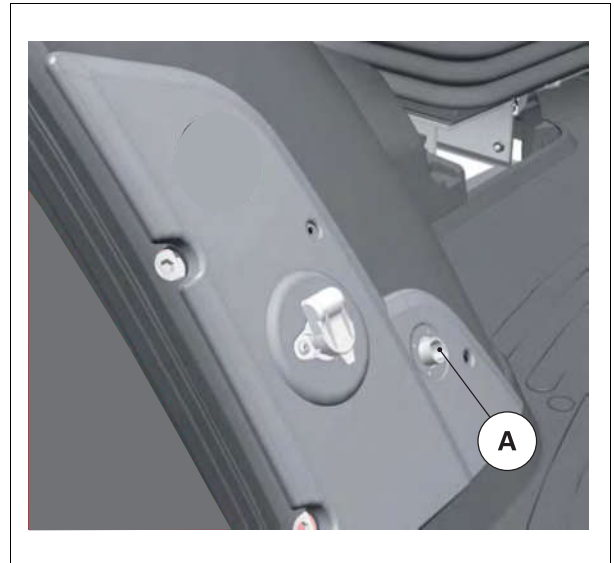

Fig. 1.
When using an Isobus implement that requires a joystick for certain functions, a joystick can be connected inside the cab to the connection (A) fig. 1 which can be set via the Datatronic CCD.